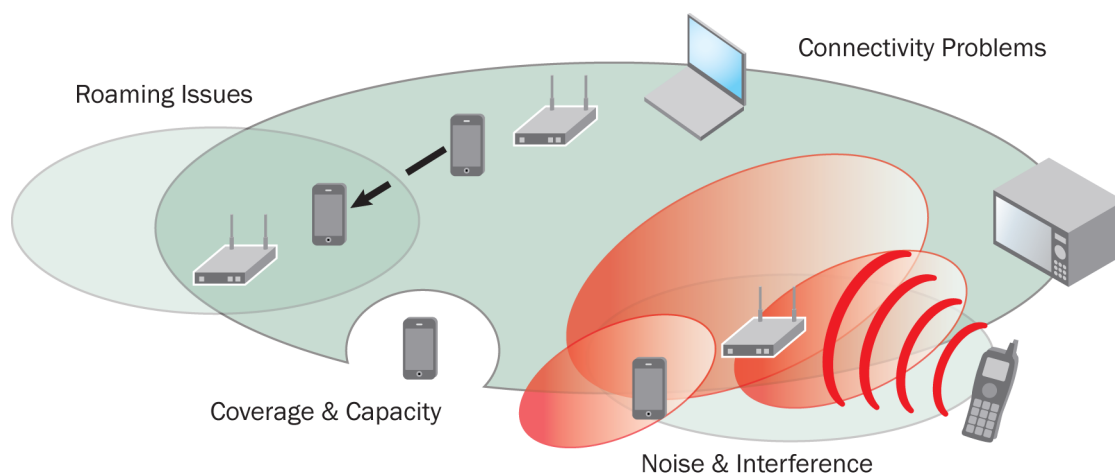

Figure 1. Common problems affecting WLAN performance
WLAN networks use a shared, license-free, Radio Frequency (RF) medium for communications. The operational challenges of running a wireless network are unique and different from wired networks. Some common issues that often affect WLAN performance are illustrated in Figure 1.